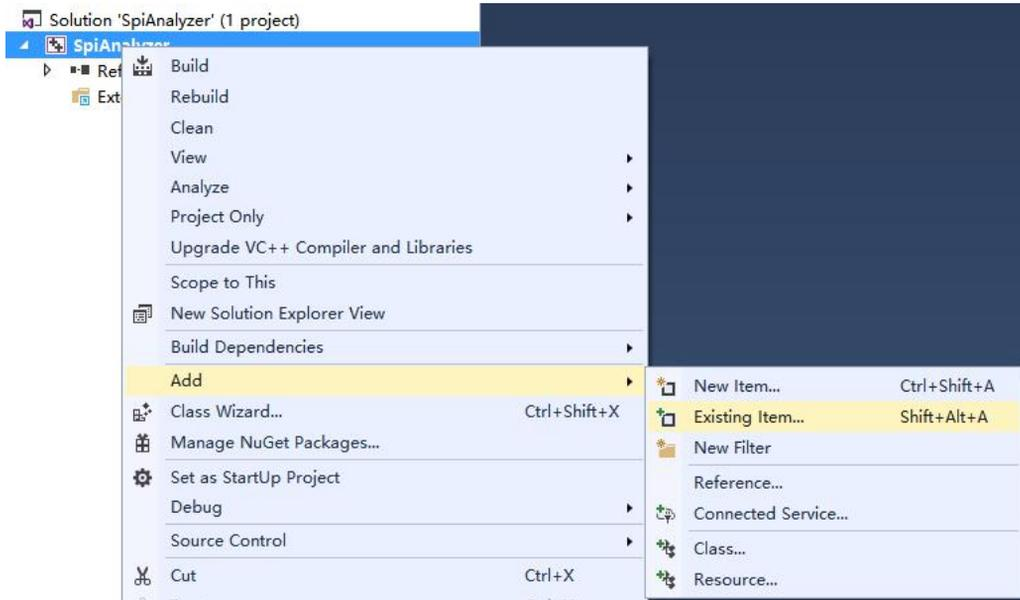

Fig.5
4. Right click on the project name, choose **Add -> Existing Item** as shown in Figure 5. Open *src* folder, select all *.cpp* and *.h* files you need to add, and add them.